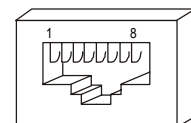

Figure 2. RJ-45 Socket Pins
10. Connect the line cable to the RJ-45 jack (see *Table 5 and Figure 2*).